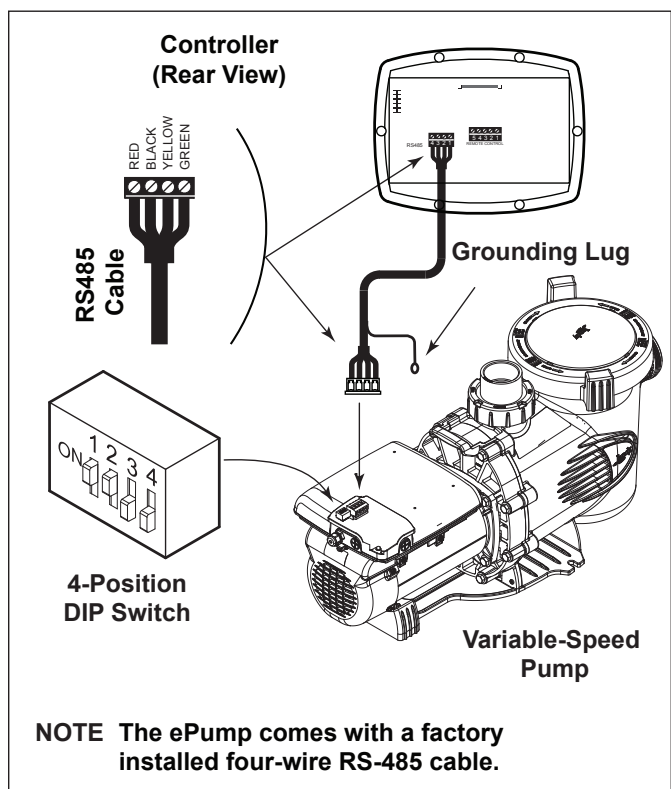

Figure 4. Wiring ePump Controller (JEP-R) to ePump, Regal Beloit Motor
4. Attach the four (4) wires in the RS-485 cable to the RS-485 connector. Match the wire colors with the positions on the connector: 1- red, 2- black, 3- yellow, and 4- green. See Figure 4.
6. Slide dip switches 1 and 2 up, so they are in the ON position, and slide switches 3 and 4 down, so they are in the OFF position. See Figure 4.
As shown in Figures 4, 5A and 5B, the 4-position dip switch is located at the rear of the ePump. This dip switch serves two (2) functions: it selects the pump address, and it determines what type of controller will be used with the pump. The tables below show the dip switch settings.
See Figures 4, 5A and 5B for compartment’s location details. An access cover with Phillips-head screw must be removed before proceeding.